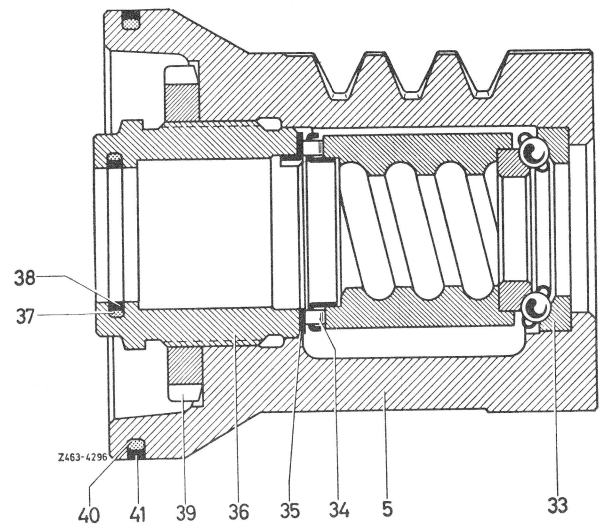

Fig. 21
22 Remove sealing ring (teflon) (38) and O-ring (37) from screw cover (36) (Fig. 21).
23 Remove axial disc (35) from screw cover (36) (Fig. 21).